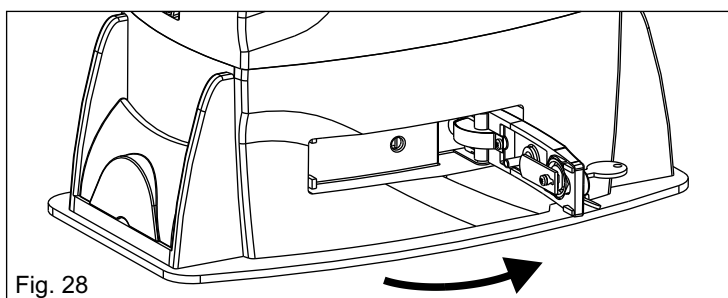

Fig. 28
- Pull the release lever until it stops, about 90° approximately (Fig. 28).